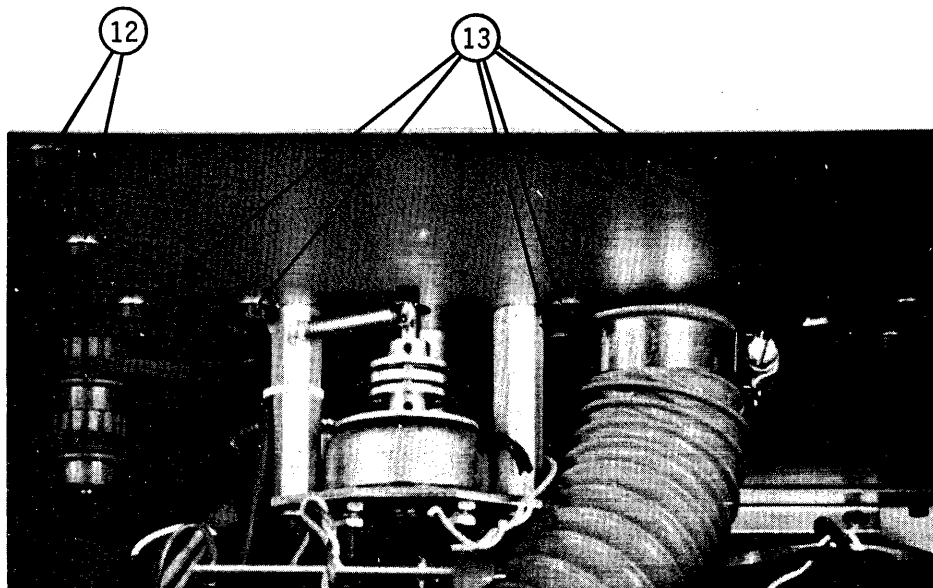

Figure 9-16. Picker Casting Removal
- c. Using a 9/64 Allen wrench, remove two socket head screws (12) holding stacker follower casting, figure 9-16, front of reader.
- n. Using a 9/64 Allen wrench, remove six socket head screws (13) holding picker casting, figure 9-16.
- o. Remove nylon tie-down holding light station cable on solenoid mounting post, figure 9-16.
- b. Using LOCKTITE GRADE C, set all six socket head screws (13), figure 9-16, BUT DO NOT TIGHTEN.